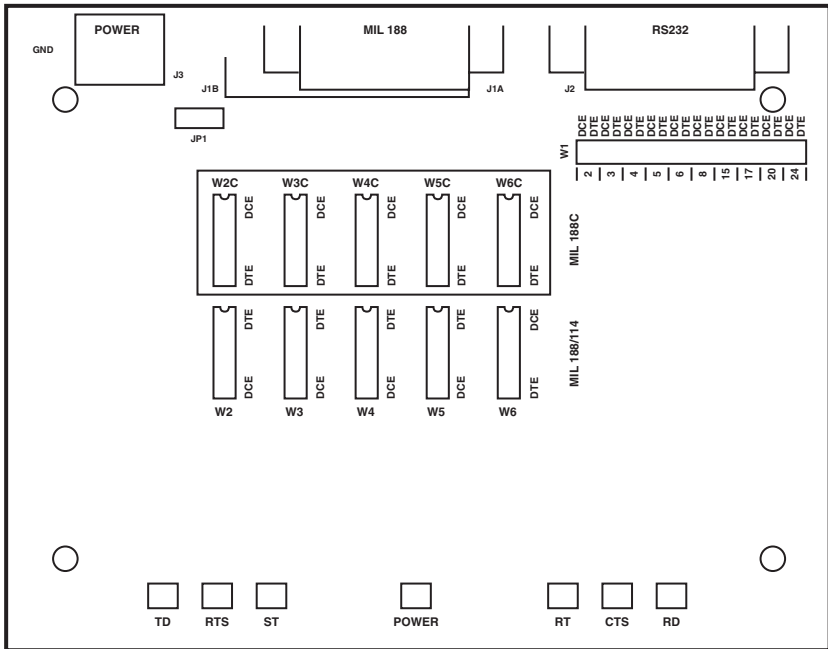
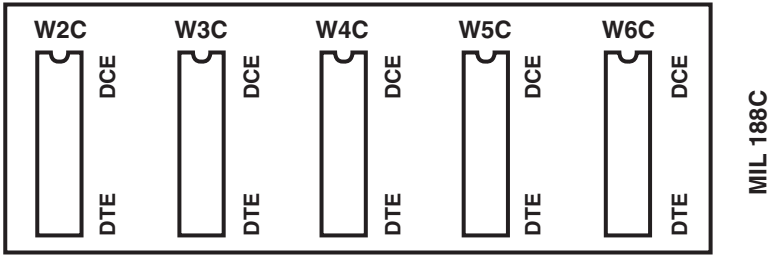

Figure 3-1. The Circuit Board.
Figure 3-4. Jumpers W2C Through W6C.
Figure 3-1 shows the location of components on the interface converter's circuit board. These components are described later in this chapter.
3. Set the jumpers and DIP shunts for your application according to the directions found in **Sections 3.2** through **3.5**. See Figure 3-1 for the location of these components.
Jumpers W2C through W6C are reserved for MIL 188-C mode. Refer to Figure 3-4 for an illustration of these jumpers and to Figure 3-1 for their position on the interface converter's circuit board. In order for the interface converter to operate properly with your MIL 188-C device, you must set these jumpers for either DCE or DTE operation, depending on the DTE/DCE status of your MIL 188-C device. To configure these jumpers simply move the DIP shunt for each to the correct position, as marked on the circuit board. Factory default for the MIL 188 side of the interface converter is to MIL 188-C operation set for DTE.